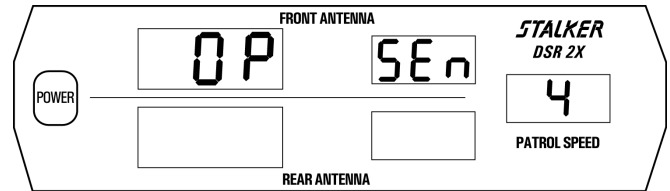

Fig. 3
The Opposite Lane sensitivity of *STALKER DSR 2X* is adjusted by pressing the remote control **MENU** key twice. The **↑** and **↓** keys then cycle through the five (5) sensitivity levels: **SEN 0**, **SEN 1**, **SEN 2**, **SEN 3**, and **SEN 4** (Fig. 3 shows sensitivity level 4, the factory default setting). In each case, the right-hand display refers to the current sensitivity setting. Sensitivity varies from **SEN 0** (0 range) to **SEN 4** (maximum range). **The sensitivity must be set for same lane mode and opposite lane mode separately.** Press any of the four Target Zone Keys to exit Setup Mode.